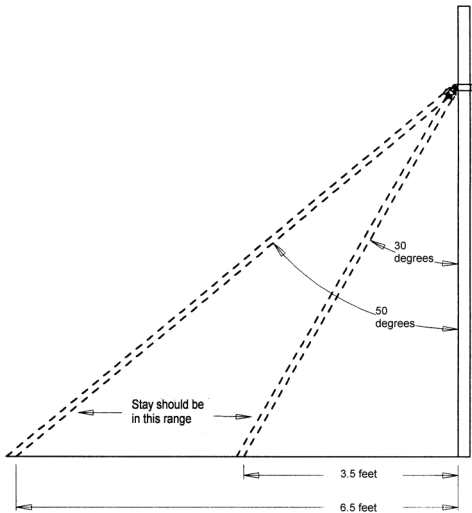
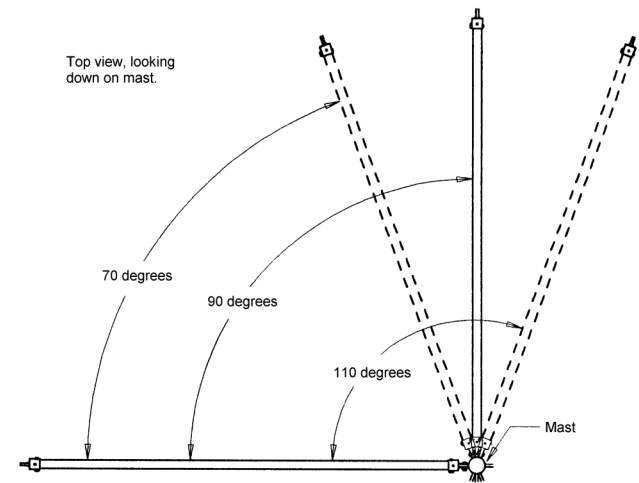

Fig. 1 Safe distances from mast to stays.
Fig. 2 Safe angles between each stay.
- The angle between the mast and stays should be within the range illustrated in figures 1 and 2 in this manual.
While evaluating your site location, keep in mind that the stays need to be mounted at least 3.5 feet (1.1 m) and no more than 6.5 feet (2.0 m) away from the turbine mast (see figure 1). The spread angle between the stays should be as close to 90 degrees as possible, plus or minus 20 degrees (see figure 2). If the stays are to be mounted to a vertical or steeply sloped surface, such as the bulkhead, these guidelines may not apply.